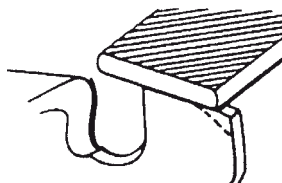

Fig. 44
- 4) Round off front corner to maintain original shape of depth gauge after using depth gauge tool. Always follow the recommended depth gauge setting found in the maintenance or operator manual for your saw. (Fig. 44)